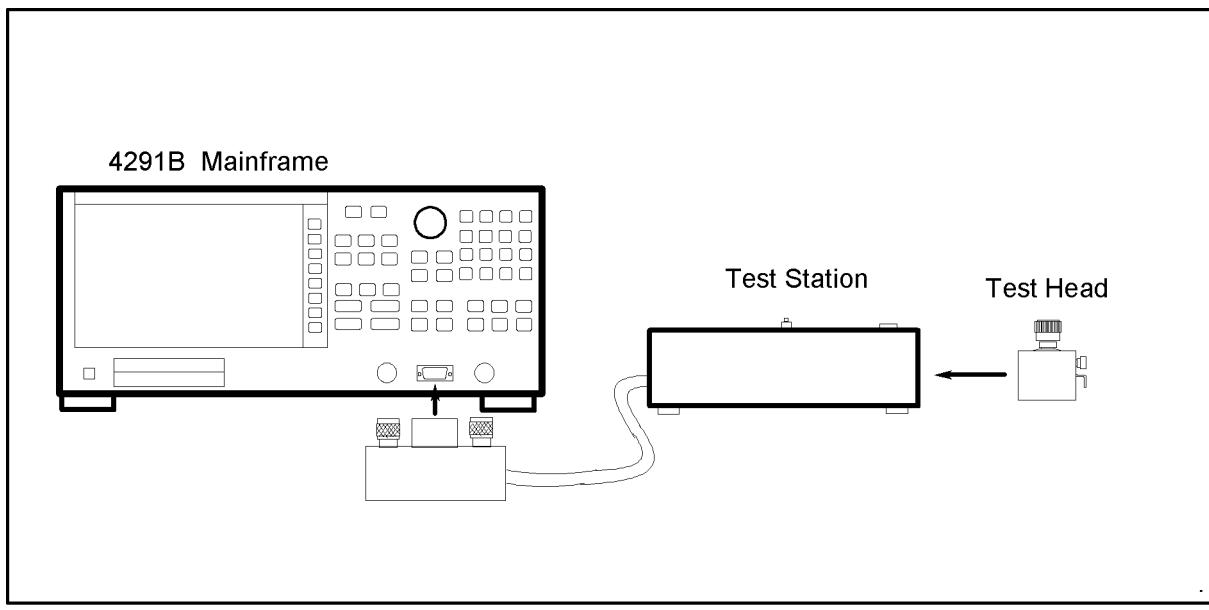

Figure 4-4. Transducer Test Setup
1. Connect the test station to the mainframe. Then connect the test head to the test station as shown in Figure 4-4.